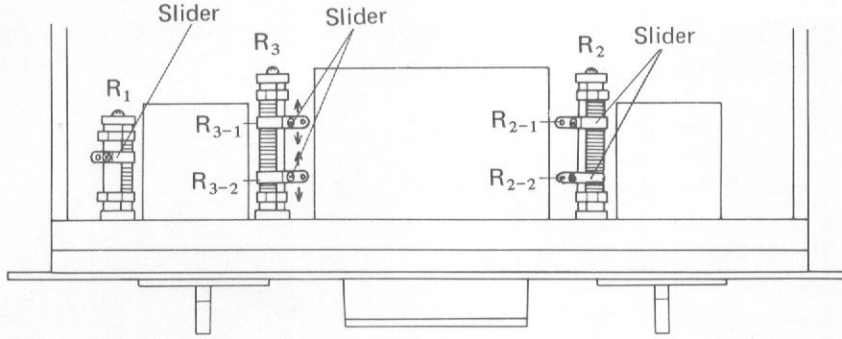

Fig. 25
2. Adjust the slider (R_{3-1}) of sliding resistor R_3 shown in Fig. 25 so that the measured value becomes 70 ~ 80g (torque = 210g.cm ~ 240g.cm).
4. Adjust the slider (R_{2-1}) of sliding resistor R_2 in Fig. 25 so that the measured value becomes 70 ~ 80g (torque = 210g.cm ~ 240g.cm).
2. Adjust the slider (R_{2-2}) of sliding resistor R_2 shown in Fig. 25 so that the measured value becomes 125 ~ 135g (torque = 375g.cm ~ 405g.cm).
4. Adjust the slider (R_{3-2}) of sliding resistor R_3 shown in Fig. 25 so that the measured value becomes 140 ~ 160g (torque = 420g.cm ~ 480g.cm).
2. Adjust the slider of ^{*}sliding resistor R_1 shown in Fig. 25 so that the measured value becomes 35 ~ 45g (torque = 105g.cm ~ 135g.cm).